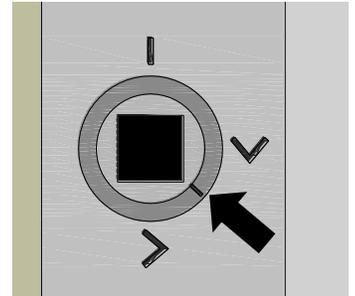

figure 23
3. While supporting the weight of the chuck, use the chuck key to turn one of the cams until the cam line is between the two "V" marks on the spindle as shown in (fig. 23).